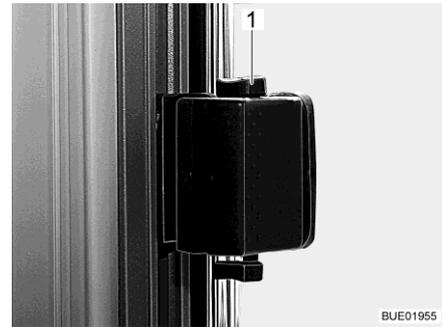

Fig. 76 Sliding window, unlocked
- Push the latch (Fig. 76,1) upwards.